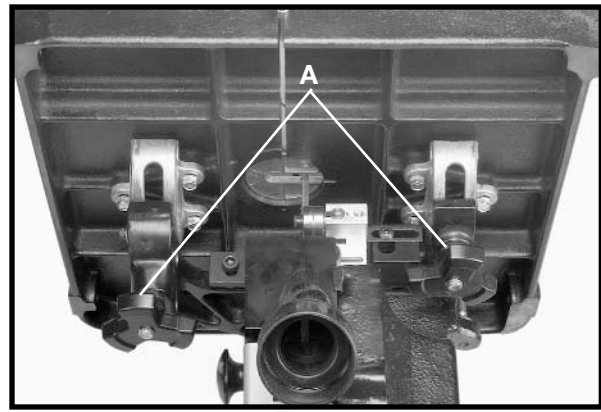
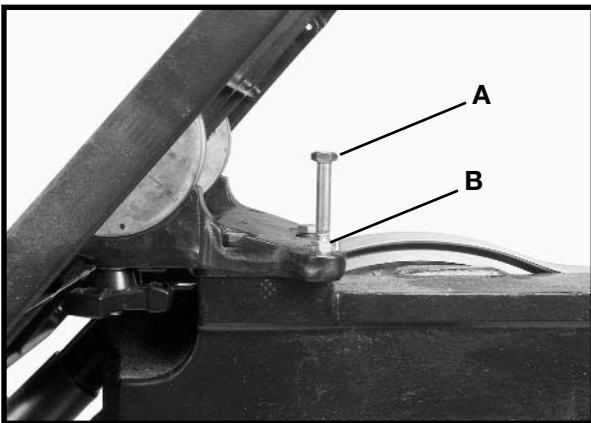
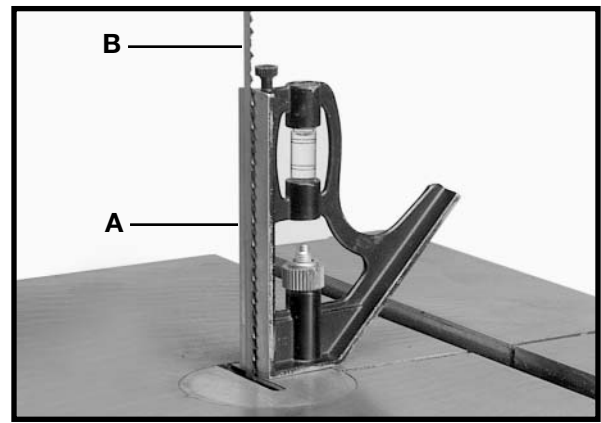

Fig.18
Fig. 19
Fig. 20
1. The table on the band saw can be tilted 45 degrees to the right and 10 degrees to the left. To tilt the table to the right, loosen the two locking knobs (A) Fig. 18, tilt the table to the desired angle, and tighten the two locking knobs (A).
2. To tilt the table to the left, loosen the two locking knobs (A) Fig. 18, and tilt the table to the right until the table stop (A) Fig. 19 is accessible. Remove the table stop (A) Fig. 19, and tilt the table to the left 10 degrees. Tighten the two locking knobs (A) Fig. 18.
The tool is equipped with an adjustable table stop (A) Fig. 19, that allows the table to be set at 90 degrees to the blade. Tilt the table to the left until the table stop (A) Fig. 19 contacts the bottom of the table. Place a square (A) Fig. 20 on the table and against the blade (B) Fig. 20, and see if the blade is 90 degrees to the table surface. To adjust:
2. Loosen the adjustment nut (B) Fig. 19, then tighten or loosen the stop screw (A) as necessary to raise or lower table stop (A).
3. Lower the table. See if the table is 90 degrees to the blade (Fig. 20).
4. If no further adjustment is necessary, tighten the lock nut (B).